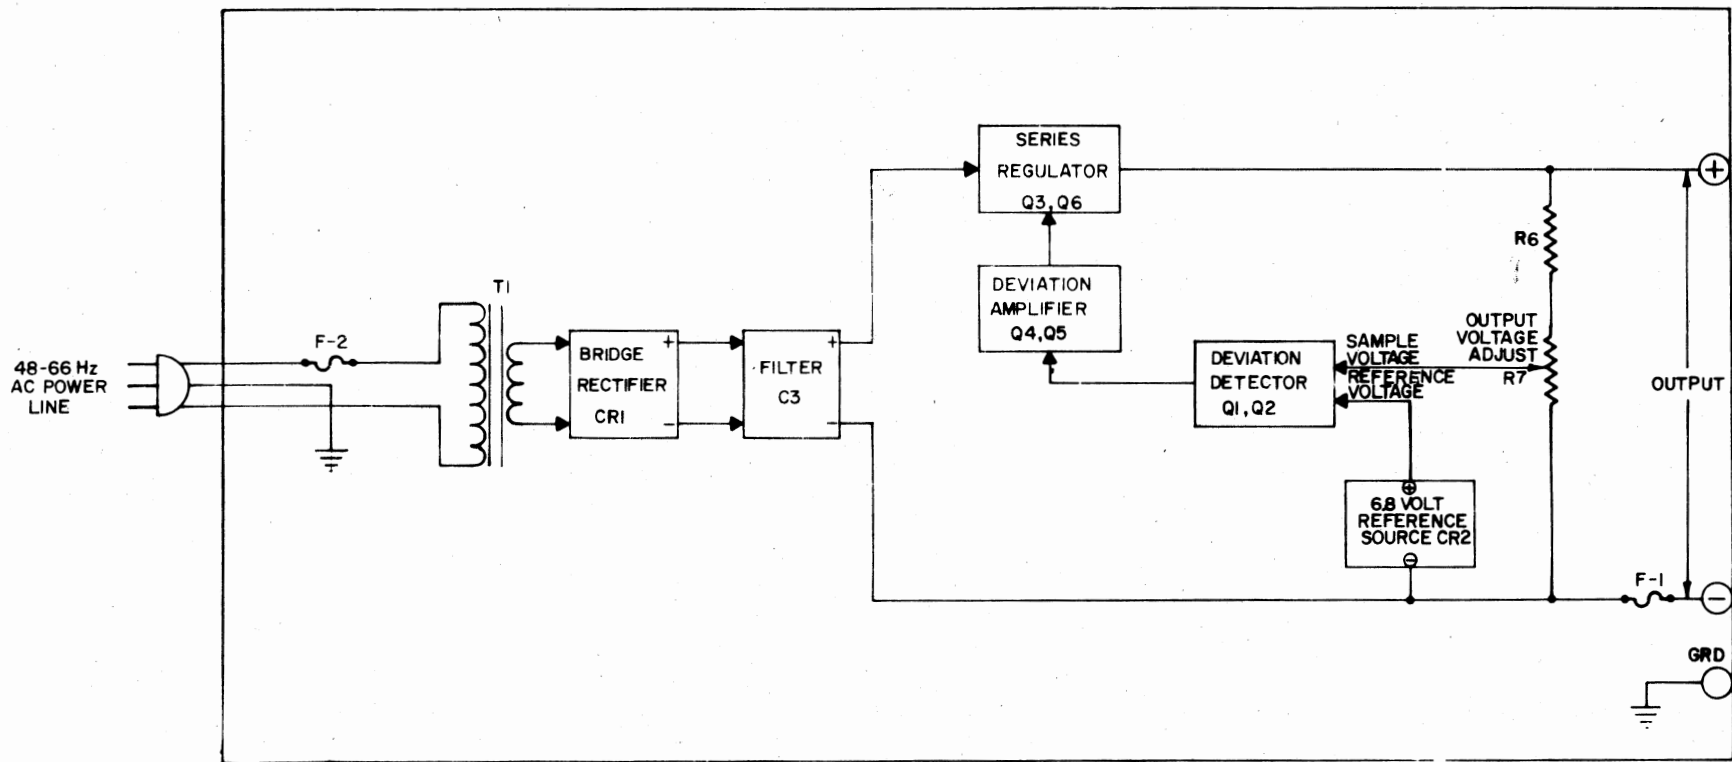

Figure 2. Functional Schematic Diagram
6.01 The Model 840 is a d-c power supply which derives a well regulated and highly filtered 48 volt output from the standard a-c power line. The 840 provides up to one ampere continuous direct current for installations where the power requirements do not justify the installation of a battery supply. Refer to Figure 2, the Functional Schematic Diagram, and to the attached schematic diagram while reading the following description.